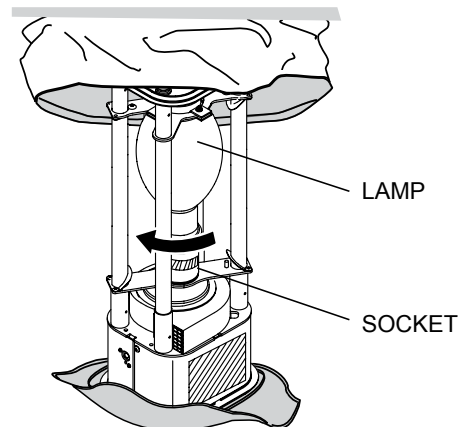

Figure 39. Removing Lamp
8. Press tabs on the lamp holder and lift up holder to release lamp. Remove lamp (Figure 39) from lamp socket by turning lamp in a counterclockwise direction.